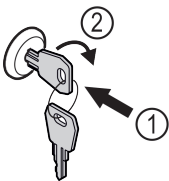

Fig. 180 Example illustration
- ▶ Insert key Fig. 180 (1).
- ▶ Turn key clockwise by 90° Fig. 180 (2).